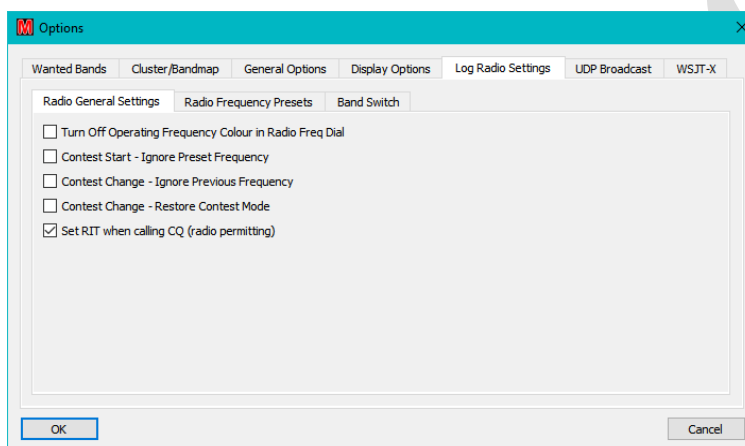

Figure 83 – Radio General Settings
- In ‘**Radio General Settings**’ (Figure 83) there are three options⁷⁵ to control the usage of band presets and per contest frequencies/modes: